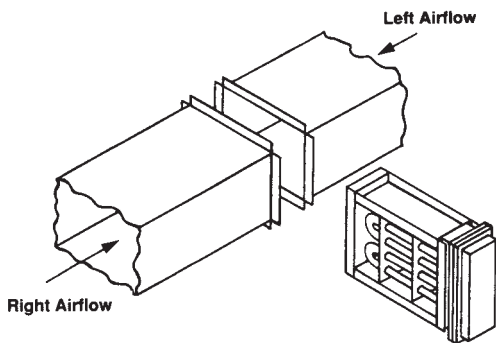

Figure 89. Standard Flanged Heater Installation
1. **Construction Type** – Standard flanged or optional slip-in. See Figures 89 and 90.